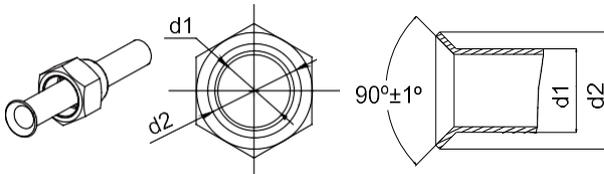

Fig.9
- (1) Cut the connection pipe with the pipe cutter and remove the burrs.
- (2) Hold the pipe downward to prevent cuttings from entering the pipe.
- (3) Remove the flare nuts at the stop valve of the outdoor unit and inside the accessory bag of the indoor unit, then insert them to the connection pipe, after that, flare the connection pipe with a flaring tool.
- (4). Check if the flare part is spread evenly and there are no cracks (see Fig.9).